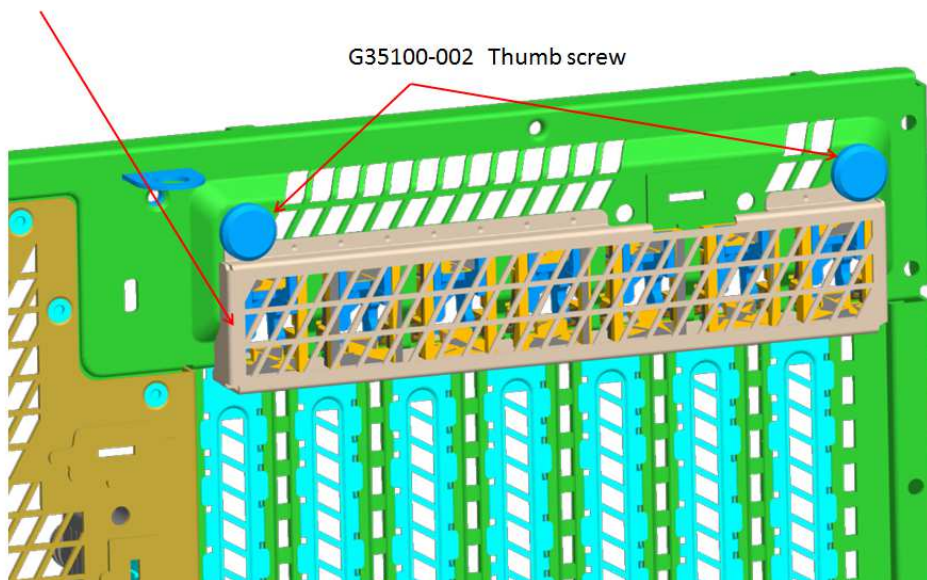

Figure 17. Installation of P4000S and P4000M Chassis EMI Bracket Cover
5. Add the EMI bracket cover using the two thumb screws as shown in Figure 17 or Figure 18 per Table 7.
P4000BTL Family	Figure 17
P4000CP Family	Figure 17
P4000FP Family	Figure 17
P4000GP Family	Figure 17
P4000SC Family	Figure 17
P4000M Chassis	Figure 17
P4000S Chassis	Figure 17